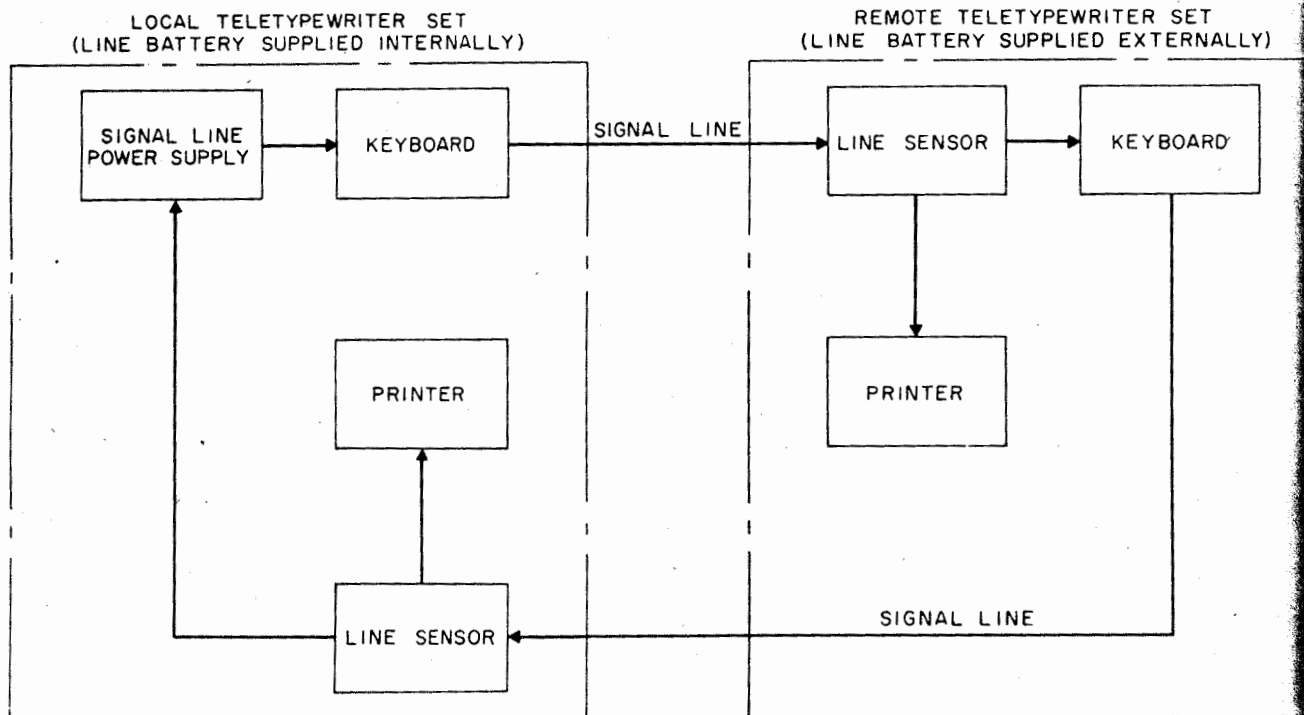

Figure 4-3. Half-Duplex Mode, Functional Block Diagram
d. HALF-DUPLEX MODE (SIMPLEX). — In half-duplex mode (figure 4-3), the functional units of both sending and receiving teletypewriter sets are all connected in series. The same signal loop is used for both machines, making it impossible to send and receive simultaneously. Figure 4-3 shows only two machines, but additional teletypewriter sets may be connected into the signal loop provided line current requirements do not exceed the capabilities of the signal line power supply.